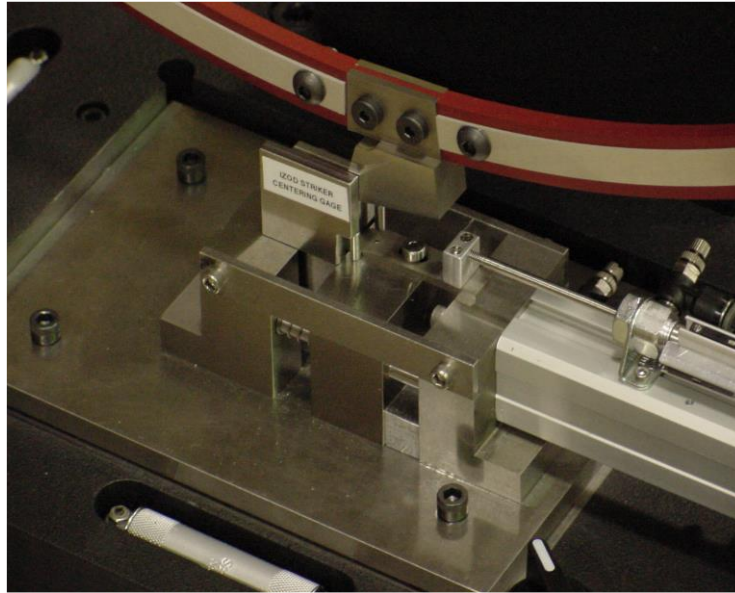

Figure 7 This shows the Izod centering tool placed in the fixture. The fixture is pushed in until the tool touches the striker to center the calibration block.
3. Insert the MPM Centering Tool into the fixture (Figure 7)